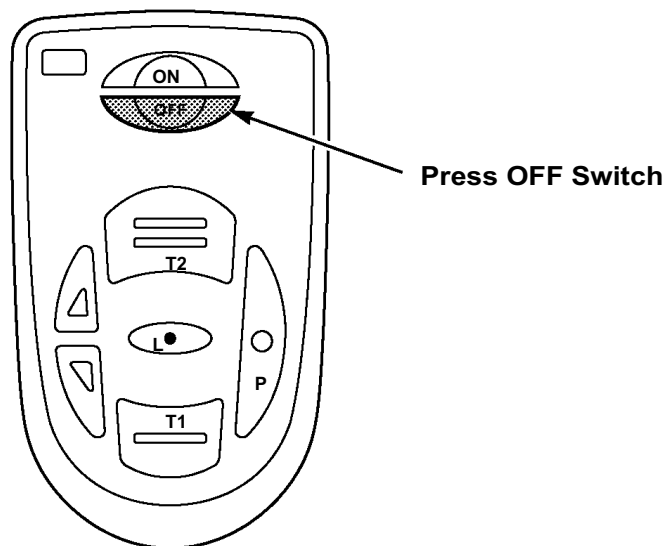

Figure 13. OFF Switch
1. Turn the headset OFF. See Figure 13.